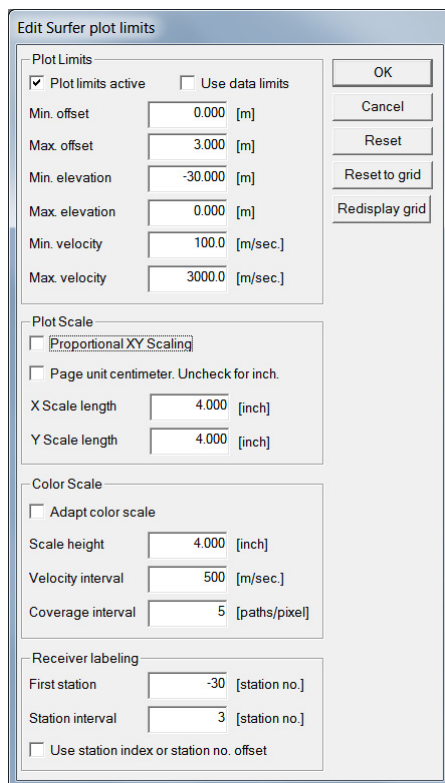

Fig. 30 : select *Grid\Surfer plot Limits*. Edit as shown and click *OK* button.
Next edit Surfer plot limits as shown in Fig. 30.
7. select *Grid menu command Surfer plot Limits*. Edit as shown in Fig. 30 and click *OK* button.